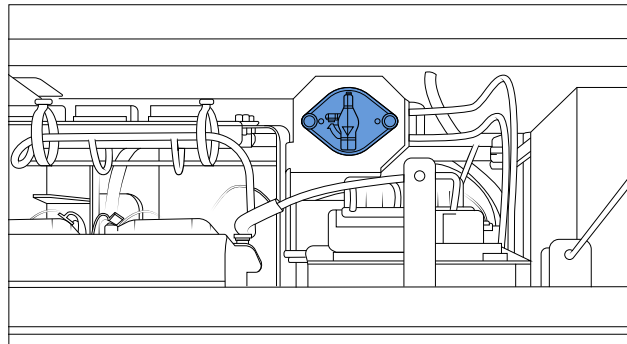

Figure 10 - Low-voltage battery disconnect switch
2. Turn off the battery disconnect switch to shut off the low-voltage circuit (**Figure 10**).
- Low voltage battery disconnect switch set to **"OFF"** (see Figure 10).